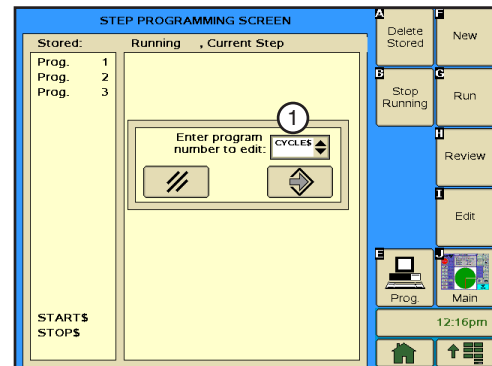

Figure 170-2 1. New Program Number Field
1. Push **Prog.** and **Step Prog.** to view the Step Program screen. Refer to Figure 170-2.